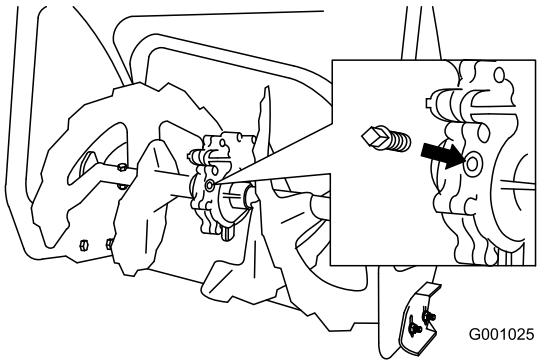

Figure 39
- 2. Clean the area around the pipe plug (Figure 39).